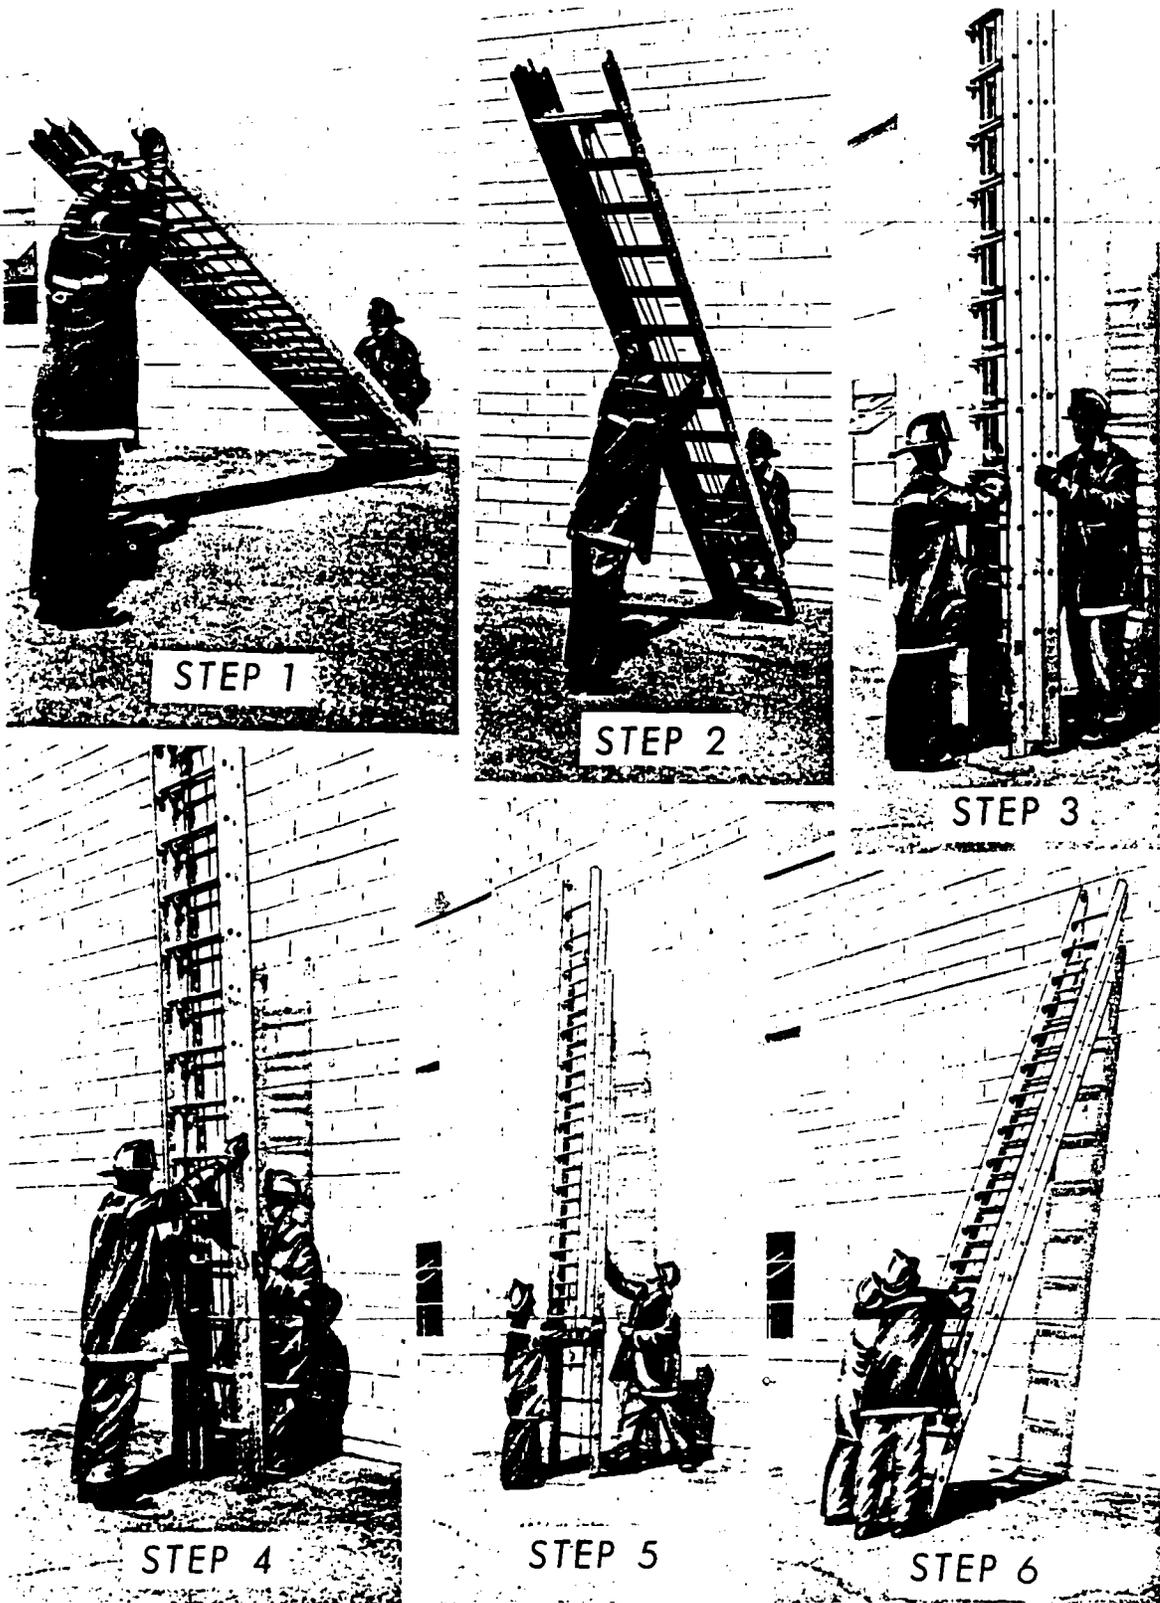

FIGURE 3-9. Two-MAN RAISE.
tension ladders. Figure 3-9 shows two men raising an extension ladder. Normally, raising the 36-foot extension ladder requires at least three men. Only in emergencies should two men be used. Two people can get into trouble raising the 36-foot extension ladder on a windy day. Before you try to raise the 36-foot extension ladder, we suggest that you practice the three- or four-man raise. The following steps should be followed in the two-man raise.
- Step 2* - The man at the top "walks" the ladder up to the building by using the rungs of the ladder, as shown in figure 3-9.
- Steps 3 and 4* - Turn the ladder so the extension is in the correct position for raising. (See the smaller man in figure 3-9 in the front; when the ladder is turned, he is on the inside between the wall and ladder.)